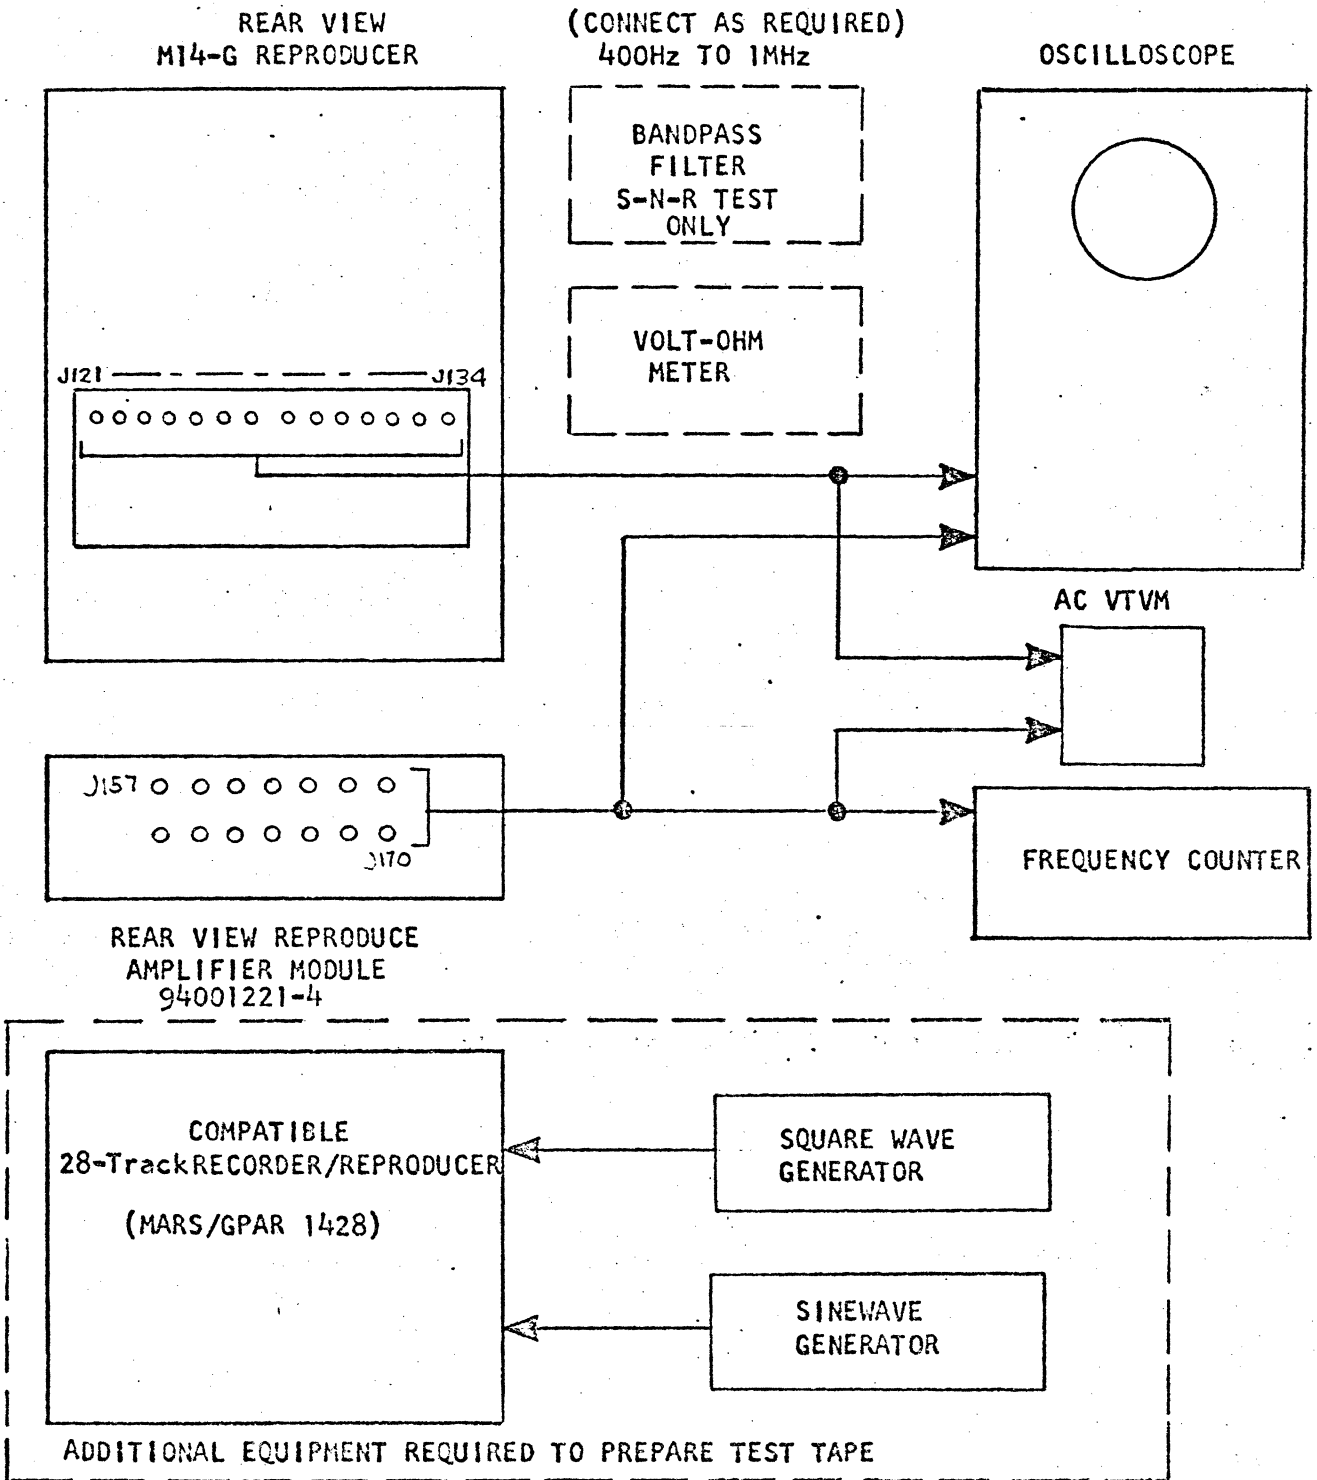

Figure A4-1
A4.2 Test Equipment Requirements. The following test equipment, or equivalent, is required to adjust the M14-G Reproducer (See Figure A4-1):
1. Connect test equipment as shown in Figure A4-1.